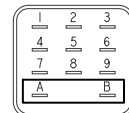

**FIGURE 12**
8. Locate kit control harness that has a 6-pin, 4-wire connector labeled P229. Connect P229 to J229 cold weather kit harness. See figure 12.